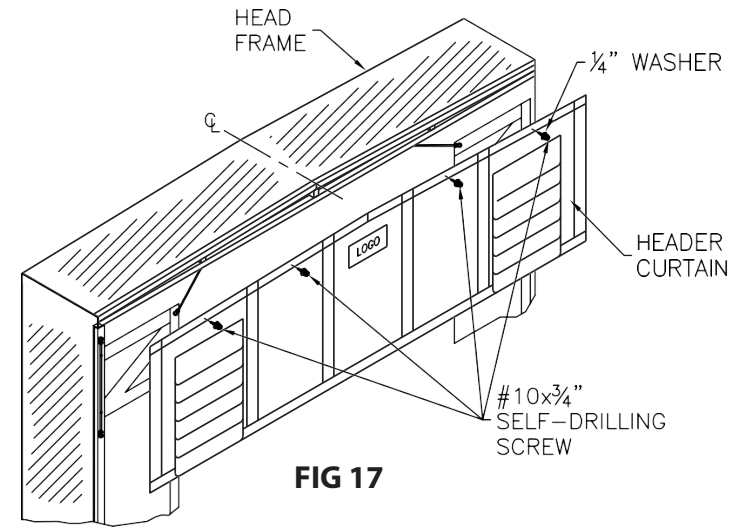

FIG 17
- Match top center of Header Curtain with top center of Head Frame (Figure 17).